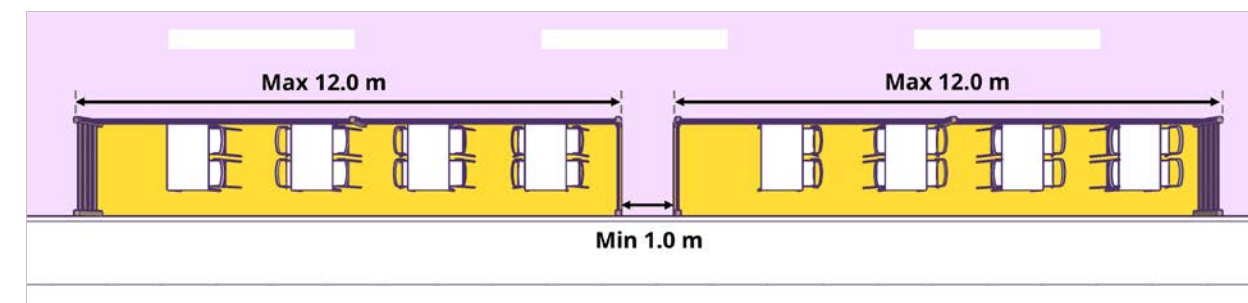

Figure 7: Gap between two patios
- g. A minimum **1.0 m** gap between two patios to provide emergency access from the road to the building (see *Figure 7*).